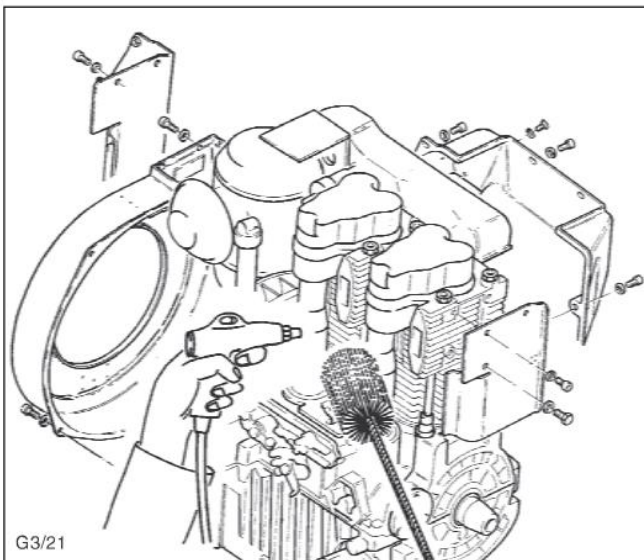
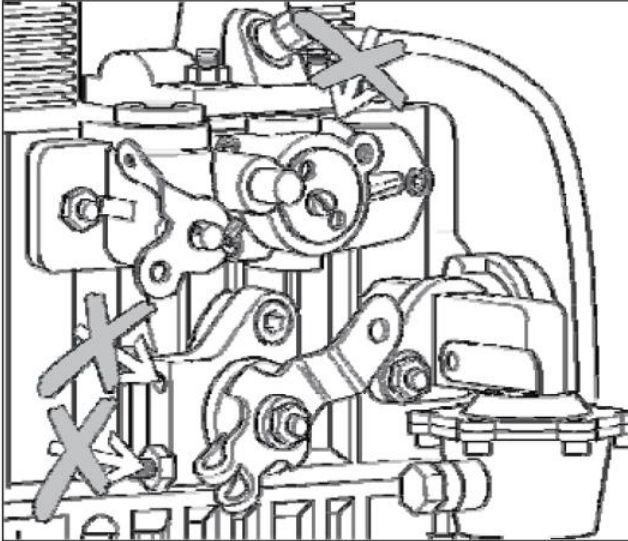

Fig. 22
Fig. 23
-Take out drain plug "1" and allow the oil to drain out completely (fig.22 without oil sump, fig.23 with oil sump).